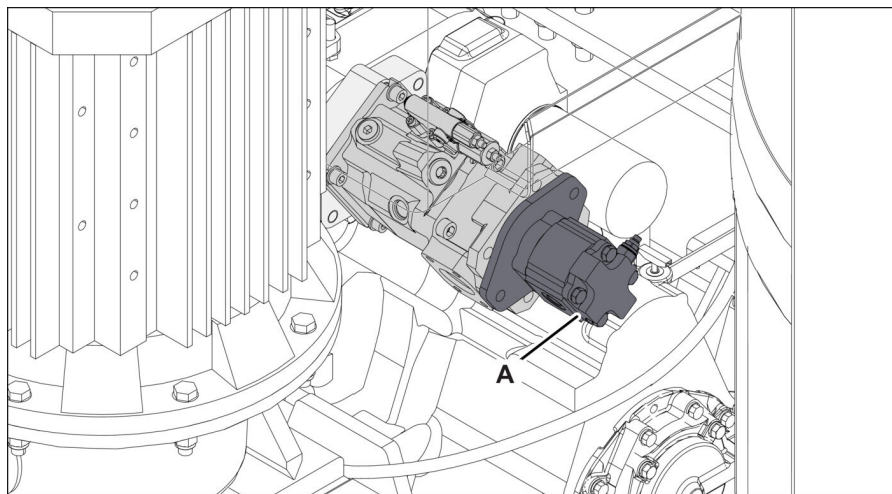

Figure 10
10. Remove the gear pump (Figure 10, item A) away from the steering positioning pump and place it in a safe location.